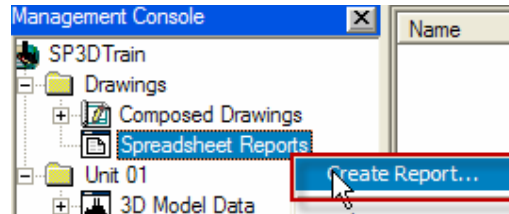

Figure 1: Create Report... Command
- Right-click the spreadsheet reports component, and click **Create Report** to create a new report, as shown in Figure 1.